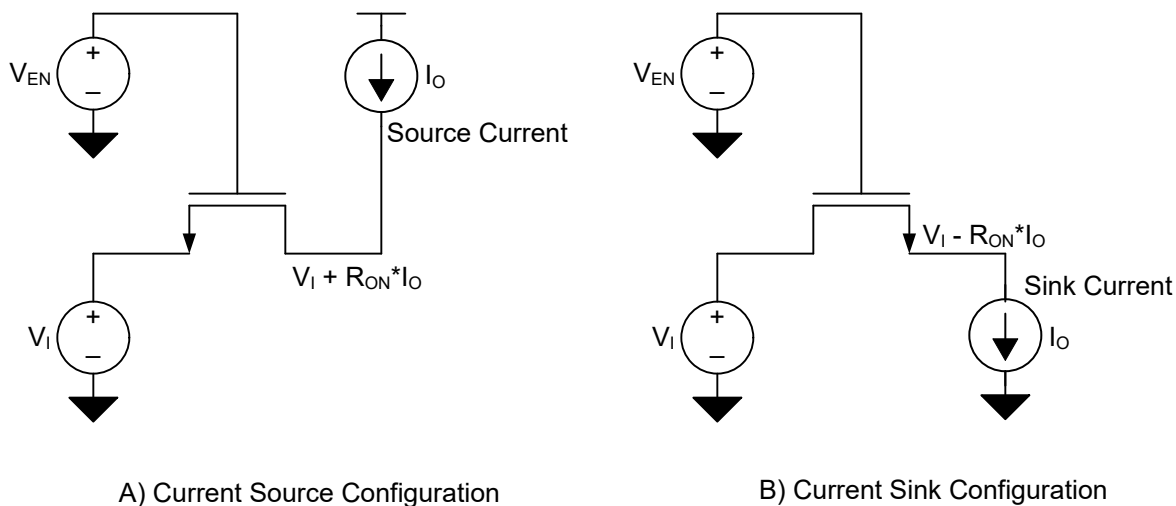

FIG 7-1. Current Source and Current Sink Configurations for Direct R_{ON} Measurements
(1) All typical values are at T_A = 25°C.
(2) Measured by the voltage drop between the SCL1 and SCL2, or SDA1 and SDA2 terminals, at the indicated current through the switch. Minimum ON-state resistance is determined by the lowest voltage of the two terminals.
(3) Measured in current source configuration only. See Figure 7-1
(4) Measured in current sink configuration only. See Figure 7-1